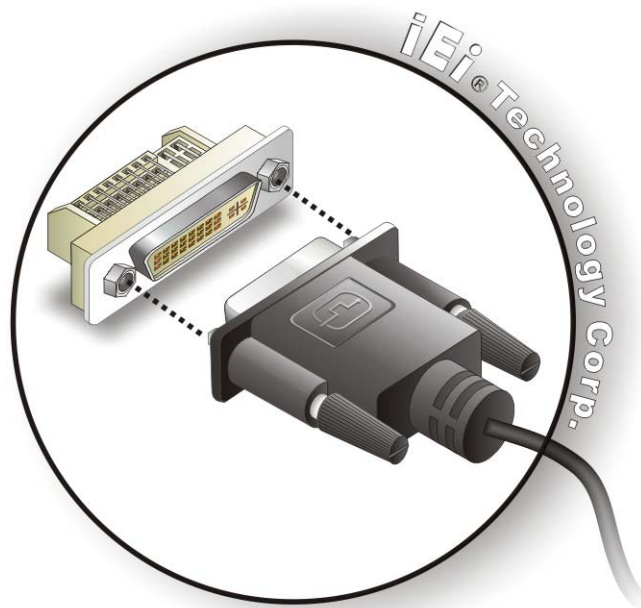

Figure 3-12: DVI Connector
Step 3: Insert the DVI connector. Once the connectors are properly aligned with the male connector, insert the male connector from the digital display device into the female connector on the ECN-780-Q67. See Figure 3-12.